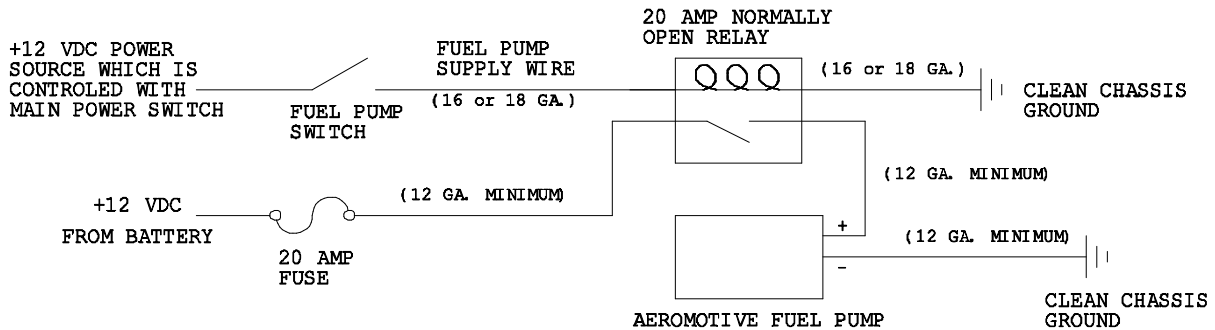

Figure 2-1
18. Prep the new tank by making all the necessary connection (feed, return, vent and electrical) before placing tank in vehicle. In most cases, once the tank is placed in the vehicle these connection will not be accessible. For electrical wiring refer to **Figure 2-1**.